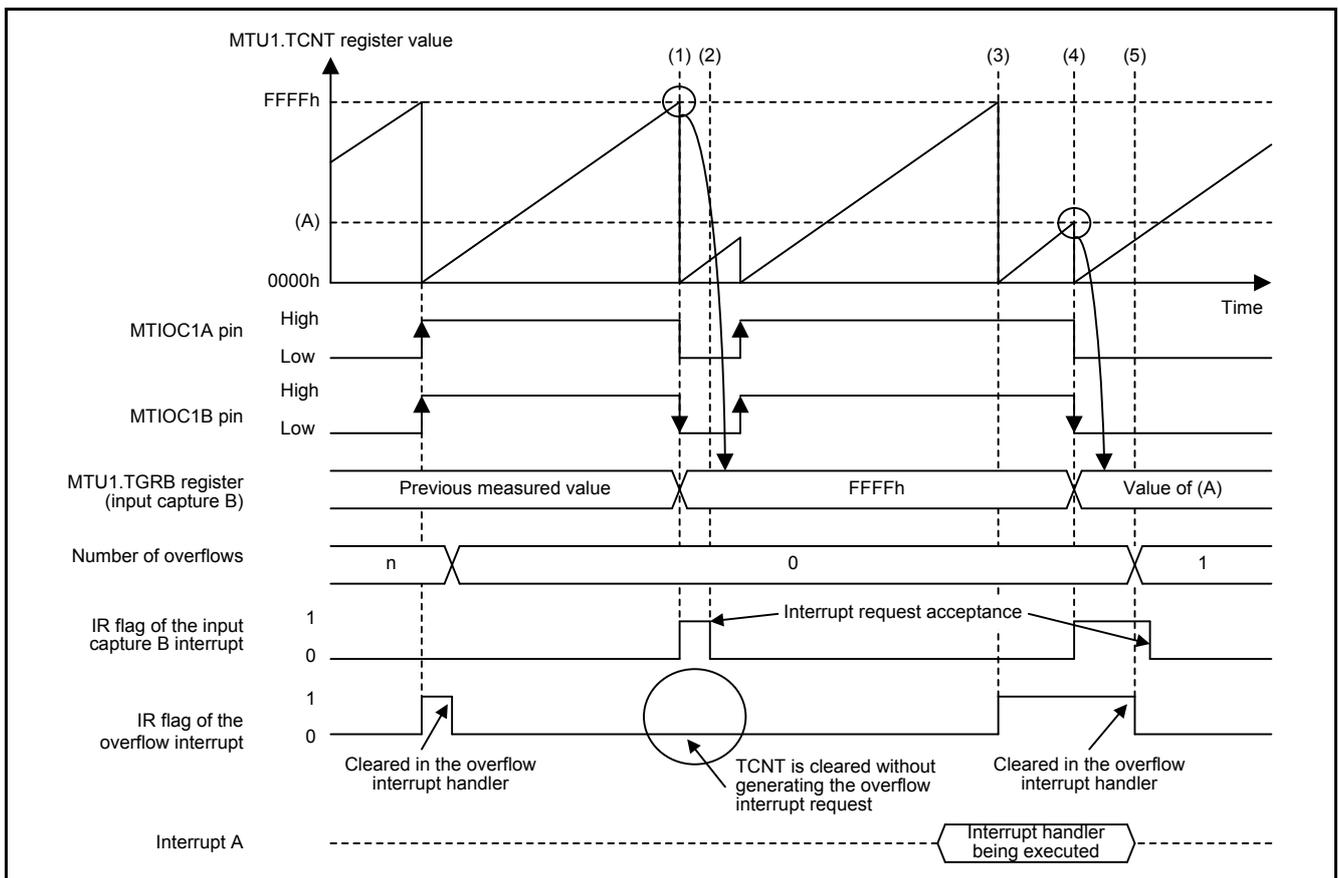

Figure 5.2 Timing Diagram When an Input Capture and Overflow Occur Simultaneously
- (1) When a falling edge occurs on the signal input to the MTIOC1B pin while the MTU1.TCNT register value is FFFFh, the MTU1.TCNT register is cleared and the input capture B interrupt request is generated after FFFFh in the MTU1.TCNT register is transferred to the MTU1.TGRB register. If an overflow and counter clear occur simultaneously, the counter clear has higher priority. Thus the overflow interrupt request is not generated.
- (2) In the input capture B interrupt handler, the MTU1.TGRB register value is read (FFFFh), and the pulse width is calculated.
- (3) When the MTU1.TCNT register value overflows while an interrupt handler (hereinafter referred to as interrupt handler A) other than an overflow interrupt handler and input capture B interrupt handler is being executed, the overflow interrupt handler is delayed.
- (4) When a falling edge occurs on the signal input to the MTIOC1B pin while interrupt handler A is being executed, the MTU1.TCNT register value is transferred to the MTU1.TGRB register and the input capture B interrupt request is generated (input capture B interrupt handler is delayed).
- (5) When interrupt handler A is completed, the overflow interrupt which has the higher interrupt priority level is executed first. In the overflow interrupt handler, the number of overflows increments by 1. In the input capture B interrupt handler which is subsequently accepted, the pulse width is calculated.
Figure 5.2 shows the Timing Diagram When an Input Capture and Overflow Occur Simultaneously. (1) to (5) in the figure correspond to (1) to (5) in the description above.